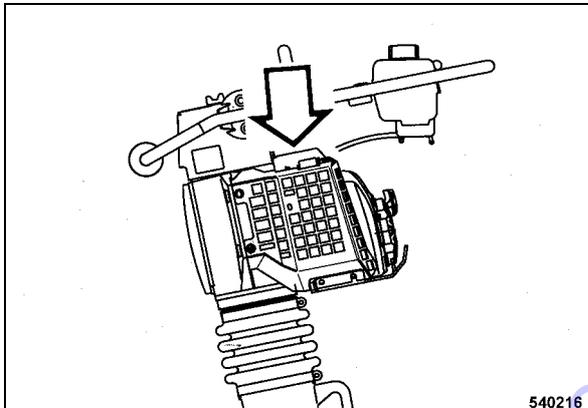

Fig. 44
- Remove the top engine cover (Fig. 44).